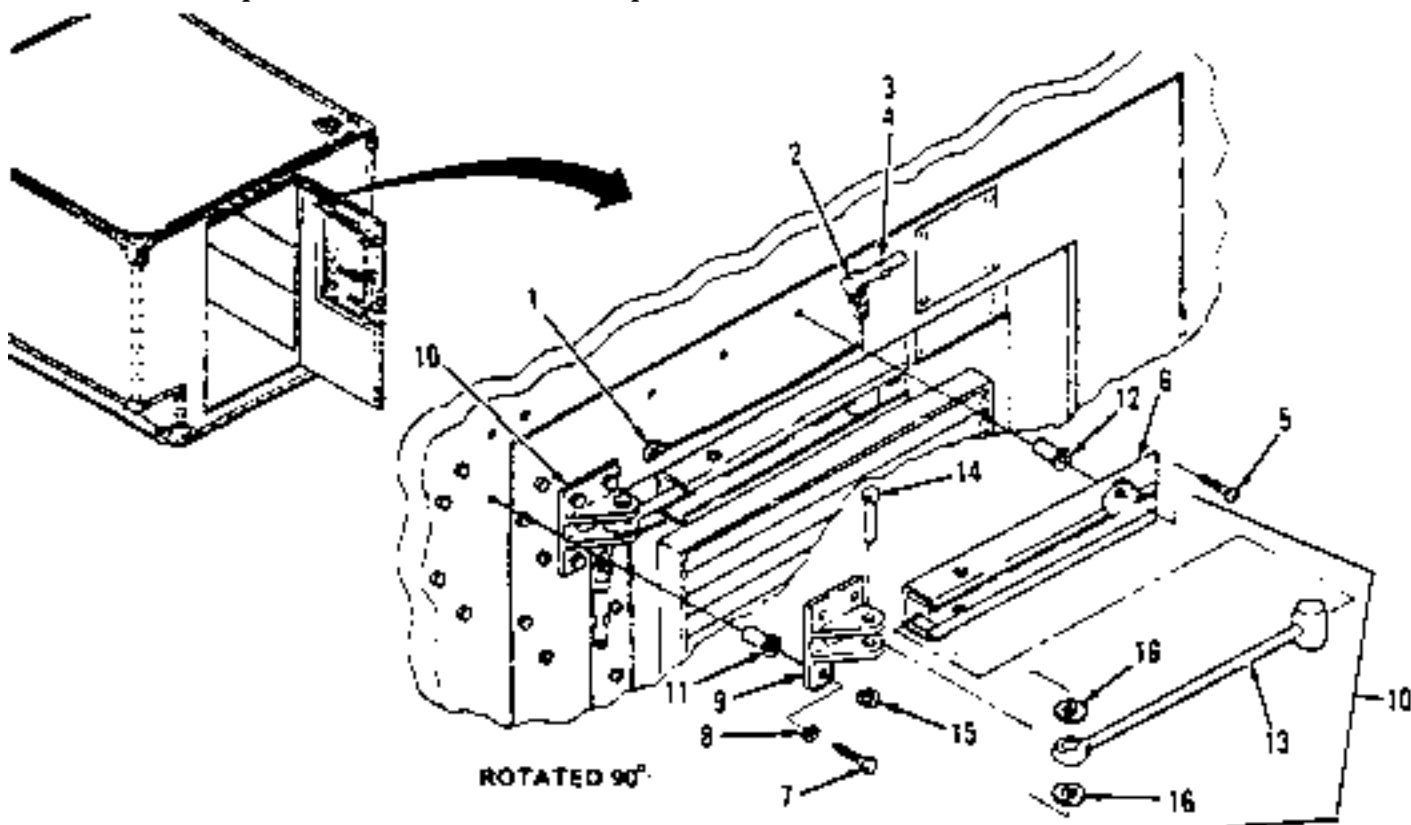

Figure 3-34. Door Stay Assembly Repair and Replacement.
- a. Inspect.* (Figure 3-34)
- (1) Inspect for missing or damage hardware.
- (2) Inspect for wear, dents, or other damage.
- (3) Inspect that rod (13) moves freely.
- (4) Inspect for secured or damaged detent pin (2).
- b. Remove.* (Figure 3-34)
- (1) Drill out rivet (1) attaching lanyard tab of detent pin (2) and remove detent pin.
- (2) Drill out two rivets (3) attaching spring tension clip (4) and remove clip (4).
- (3) Push door open and remove and retain three phillips head screws (5) attaching door stay channel (6) to door panel (outer or inner door).
- (4) Remove and retain three hex-head screws (7) and lock washers (8) attaching door stay bracket (9) to panel (shelter or inner door), and remove door stay assembly (10).
- (5) Inspect condition of rivnuts (11 and 12) and replace if necessary (paragraph 3-9.b).
- c. Disassemble.* (Figure 3-34)
- (1) Push channel assembly (6) out of door stay rod (13).
- (2) Grind off end of pin (14) and remove flat washer (15).
- (3) Remove pin (14) to release door stay rod (13) and two flat washers (16) from bracket (9).
e. Assemble. (Figure 3-34)
- (1) Position two flat washers (16) and door stay rod (13) in place inside bracket (9) end secure in place with pin (14).
- (2) Push flat washer (15) in place from bottom of pin (14), and peen end of pin (14) over to hold washer (15).
- (3) Slide rod end (13) into channel assembly (6).
f. Install. (Figure 3-34)
- (1) Position channel assembly (6) on door panel (outer or inner door) and secure to panel with three phillips head screws (5) after dipping screws in sealer.
- (2) Position bracket (9) in place on panel (shelter or outer door panel) and secure with three hex-head screws (7) dipped in sealer, and three lock washers (8).
- (3) Position spring tension clip (4) and secure to panel with two rivets (3) dipped in
- (4) With a rivet (1) dipped in sealer, attach lanyard tab of detent pin (2) to door panel (outer or inner door panel).